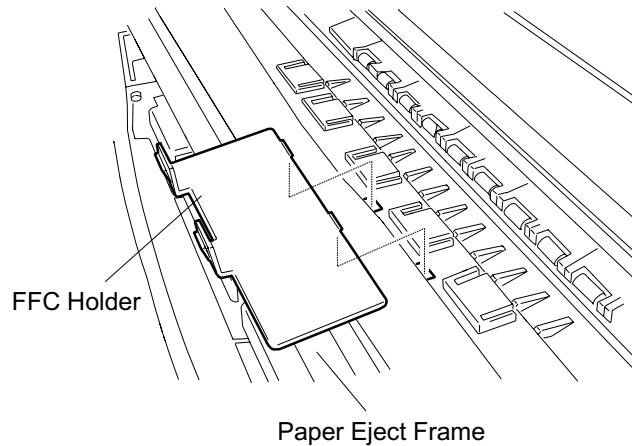

Figure 3-12. FFC Holder Removal
3. Release 2 hooks for the FFC holder, and remove the FFC holder. (See Figure 3-12.)